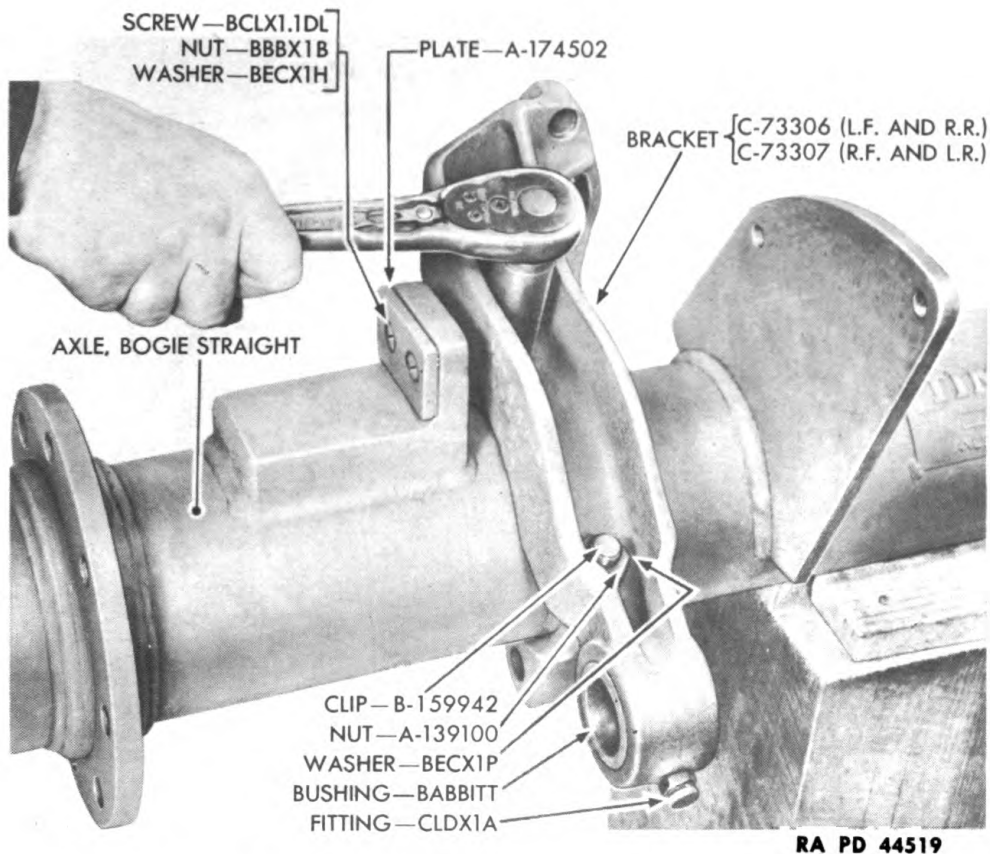

Figure 261—Removing Brake Operating Cam Bracket
(1) Remove nuts A139100 and washers BECX1P from clip B159942, and lift bracket C73306 or C73307 from axle (fig. 261).
(2) Repeat procedure as described in step (1) above to remove the other brake operating cam bracket from straight axle.
BE CX1H from plate A174502 (fig. 261). Lift plate and shims A173508 from axle.